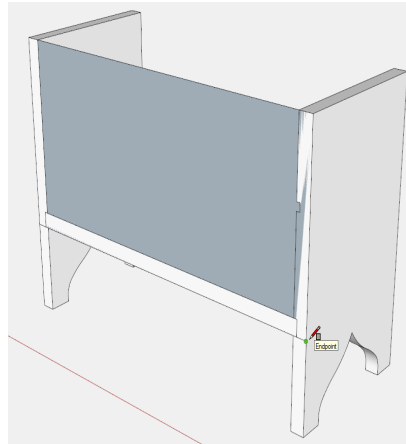

Figure 14. Use the Rectangle Tool to create the face of the Front component.
Step 6 Use the Rectangle Tool to outline the face of the Front. Double click and right click, then pick Make Component from the menu. See Figure 14.